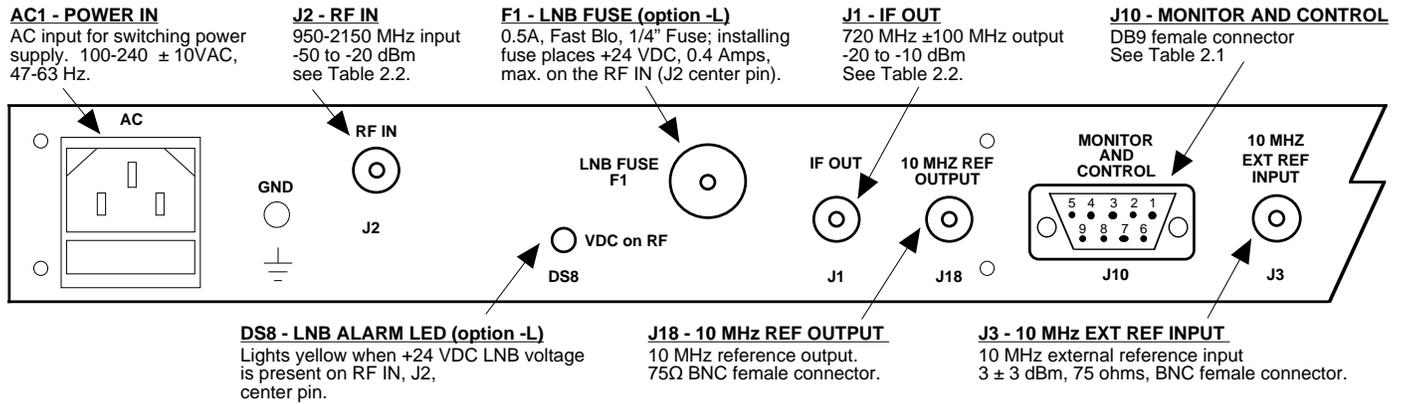

FIGURE 2.2 2016-02-720-400 Rear Panel I/Os
Figure 2.2 shows the input and output connectors on the rear panel.
1. Connect a -50 dBm to -20 dBm signal to RF IN, J2 (Figure 2.2)